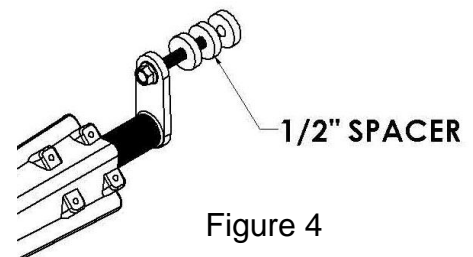

Figure 4
- C. Spacers are supplied to bring the steel swivel away from the frame in the event of any obstructions (Figure 4).